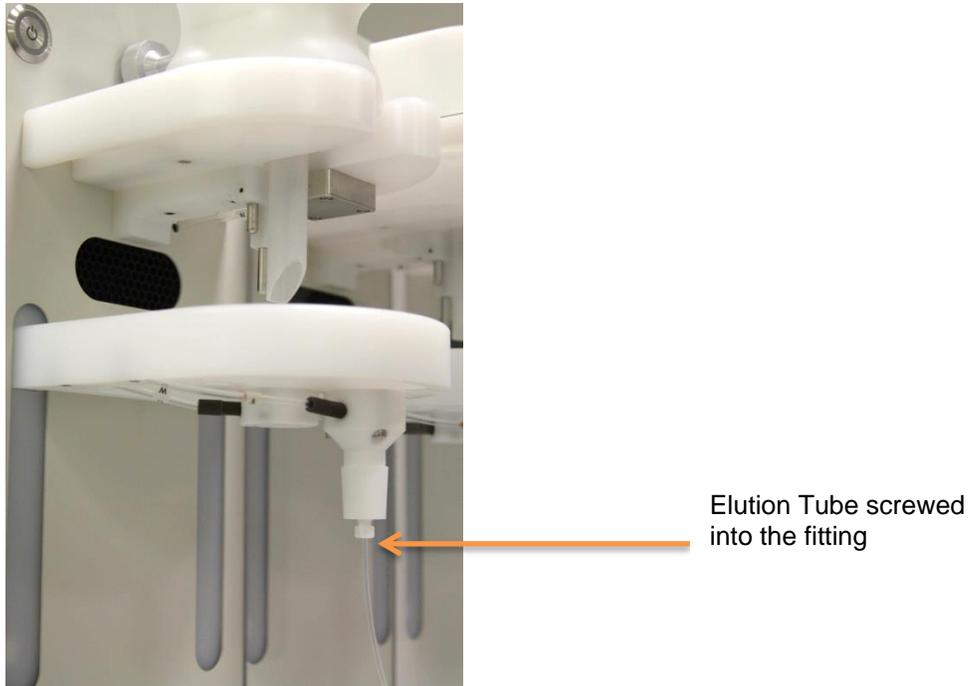

Figure 5-9. Elution tube installed on Station 1
Step 22: Locate the Elution Dispensing tubes (P/N 50-5010-01). Screw them carefully into the bottom of the collection adapter, finger tight, on each station as shown in Figure 5-9.